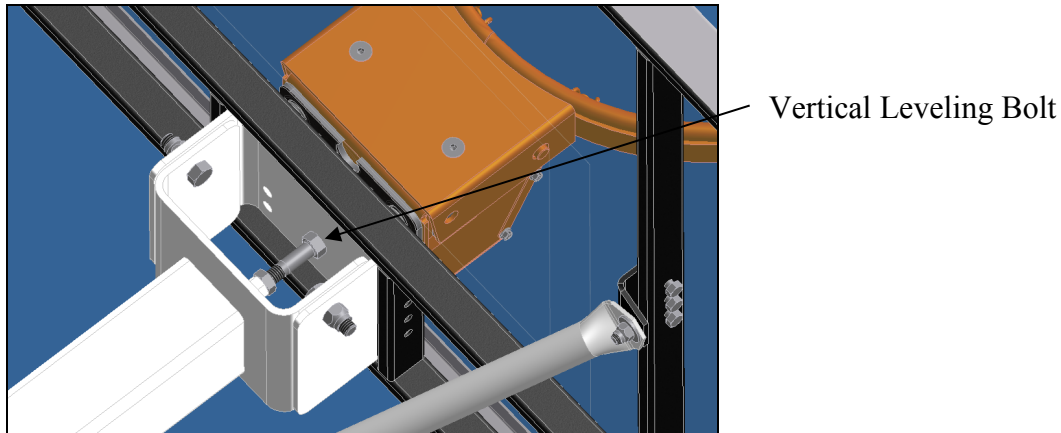

Figure 9
15. To level the backboard in the vertical plane, loosen the two carriage bolts at the board brace clamp on top of the boom. Refer to Figure 9. Using a $\frac{3}{4}$ " wrench, adjust the leveling bolt in the board mounting bracket until the backboard is plumb. Tighten the locking nuts on the leveling bolt. Tighten the two carriage bolts at the brace clamp securely.